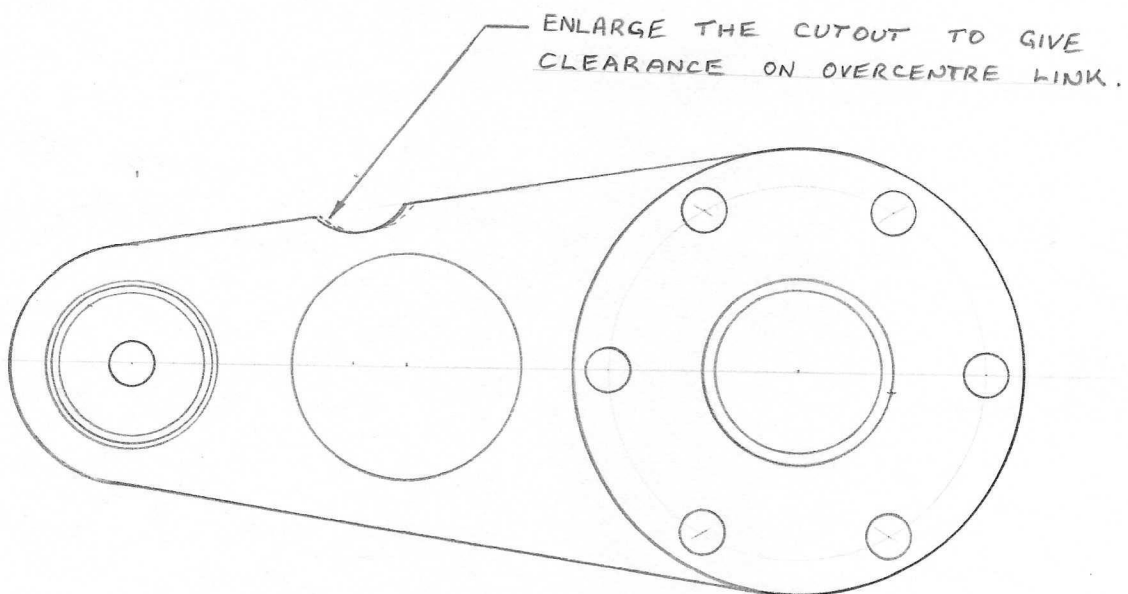

FIG 2 - MODIFICATION TO AIRBRAKE FOLLOWER
11. Enlarge the cutout in the airbrake follower as shown on the attached sketch (Fig.2) to give clearance between the overcentre link and the follower when the airbrake operating handle is pulled back. Paint over any exposed metal with etch primer.